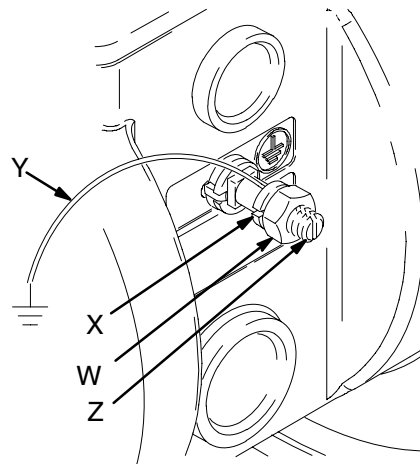

Fig. 1
- *Pump:* Connect a ground wire and clamp as shown in Fig. 1. Loosen the grounding lug locknut (W) and washer (X). Insert one end of a 12 ga (1.5 mm²) minimum ground wire (Y) into the slot in the lug (Z), and tighten the locknut securely. Connect the clamp end of the ground wire to a true earth ground. *To order a ground wire and clamp, order Part No. 222011.*